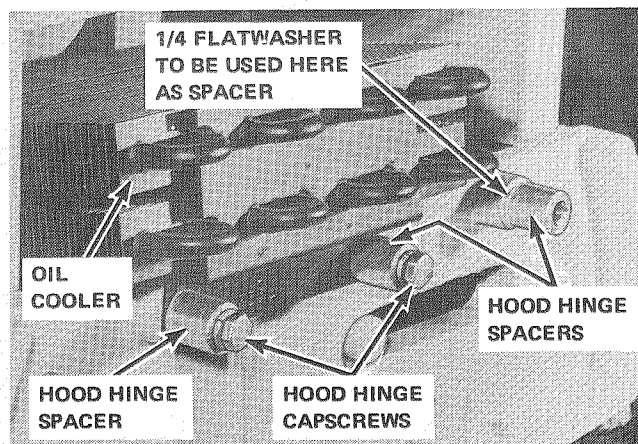

Figure 7
10. Reinstall hood and hood hinge. Place hood hinge spacers between cooler bracket and hood hinge. Place 1/4 inch flat washer under Left hood hinge spacer. See figure 7.